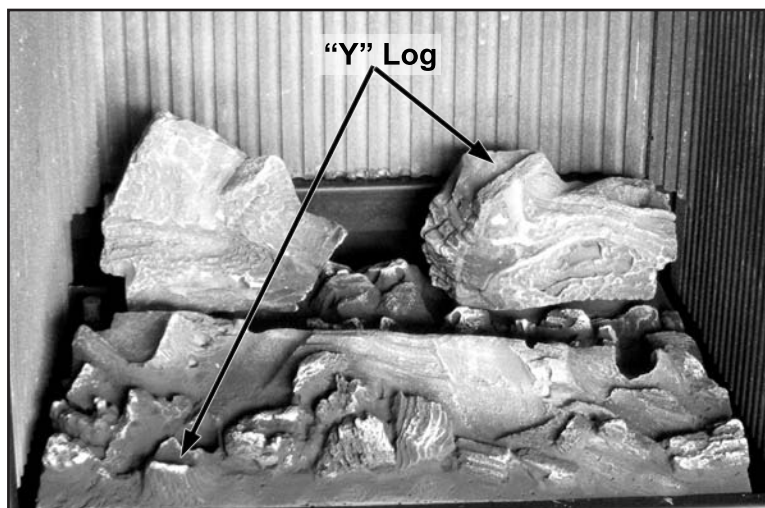

Figure 38: Log Placement of "Y" Log.
3. Place the bottom of the "Y" Log in the ledge at the front left of the burner and the top of the log rests on the Right Rear Log Chunk as shown in Figure 38 and 39.